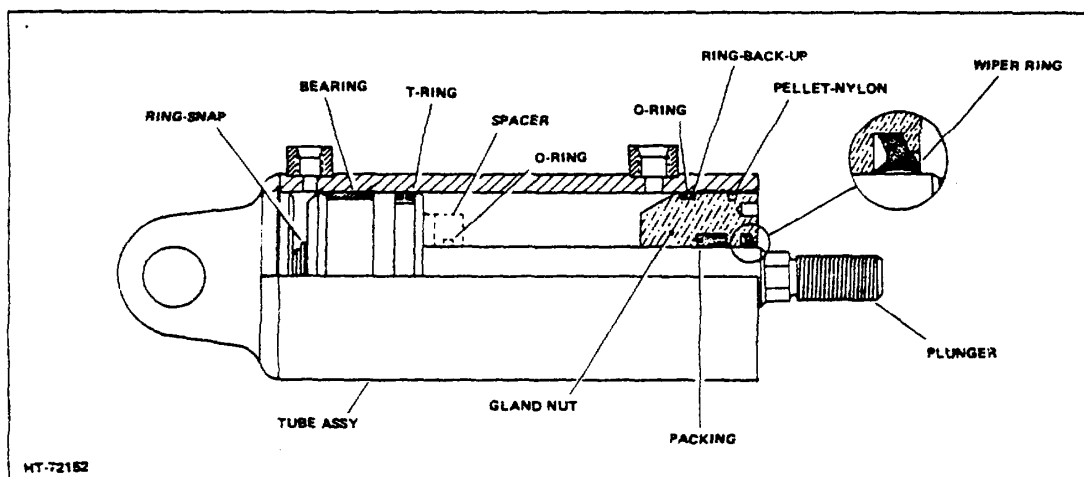

Figure 8-1. Tilt Cylinder (Current Type)
During the 50 hour inspection, check for oil leakage at the gland nut (Fig 8-1). Oil leakage at the gland nut indicates seals are worn. To stop leakage, remove gland nut with a spanner wrench and replace seals.
1. When packing (Fig 8-1) starts to wear, it should be replaced.